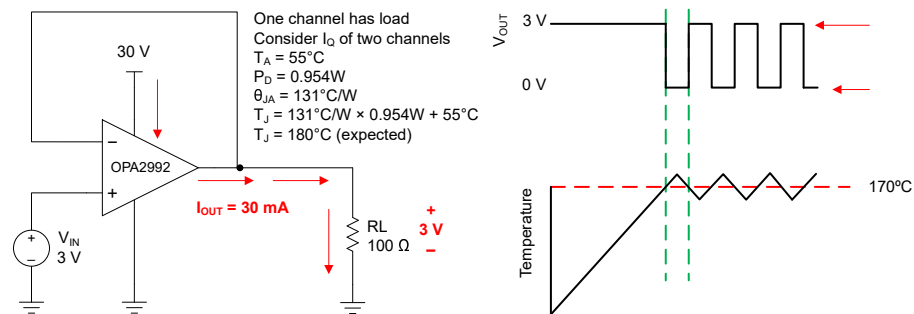

Figure 6-4. Thermal Protection
The internal power dissipation of any amplifier causes its internal (junction) temperature to rise. This phenomenon is called *self heating*. The absolute maximum junction temperature of the OPAx992 is 150°C. Exceeding this temperature causes damage to the device. The OPAx992 has a thermal protection feature that reduces damage from self heating. The protection works by monitoring the temperature of the device and turning off the op amp output drive for temperatures above 170°C. Figure 6-4 shows an application example for the OPA2992 that has significant self heating because of its power dissipation (0.954 W). In this example, both channels have a quiescent power dissipation while one of the channels has a significant load. Thermal calculations indicate that for an ambient temperature of 55°C, the device junction temperature reaches 180°C. The actual device, however, turns off the output drive to recover towards a safe junction temperature. Figure 6-4 shows how the circuit behaves during thermal protection. During normal operation, the device acts as a buffer so the output is 3V. When self heating causes the device junction temperature to increase above the internal limit, the thermal protection forces the output to a high-impedance state and the output is pulled to ground through resistor R_L . If the condition that caused excessive power dissipation is not removed, the amplifier will oscillate between a shutdown and enabled state until the output fault is corrected. Please note that thermal performance can vary greatly depending on the package selected and the PCB layout design. This example uses the thermal performance of the SOIC (8) package.